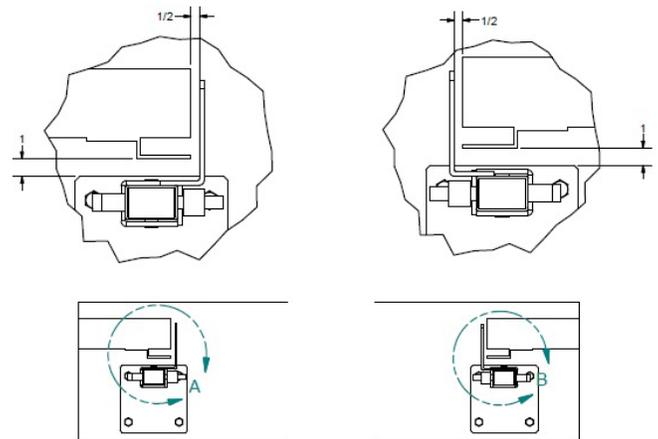
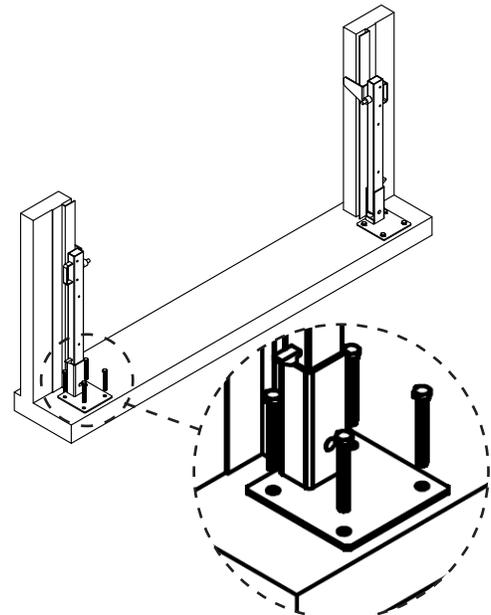

Figure 4
Figure 5
3. With the Door SHIELD in the vertical position, place then on each side of the overhead door in front of the door track so the locking mechanism is at least 1/2" from the inside of the track. See Figure 4.
5. Mark each of the four (4) holes on the mounting plate; repeat on opposite site.
8. Install four (4) minimum 5/8" x 4-1/4" long anchor bolts or equivalent. Torque to manufacturer's specs. See Figure 5.